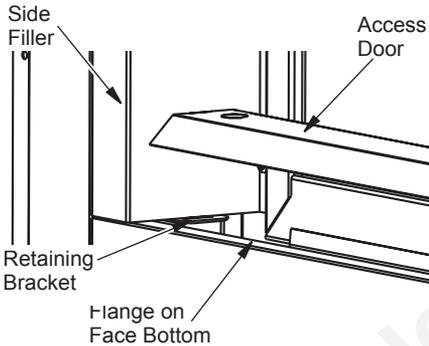

Figure 24 - Access Door for See-Thru Applications
1. Place access door into rectangular opening in front of the glass door with the slanted side facing forward. The slanted surface will slide underneath the flange of the bottom face. Insert tabs on side of access door into slots on retaining brackets (See Figure 24).
1. Remove Access Plate (See Figure 24).